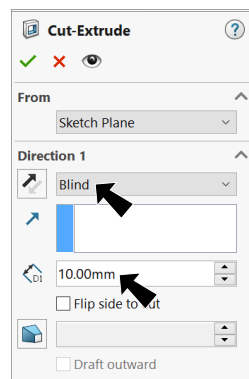

Fig. 14
Step 6. In the Cut-Extrude Property Manager set: under Direction 1, **Fig. 14**